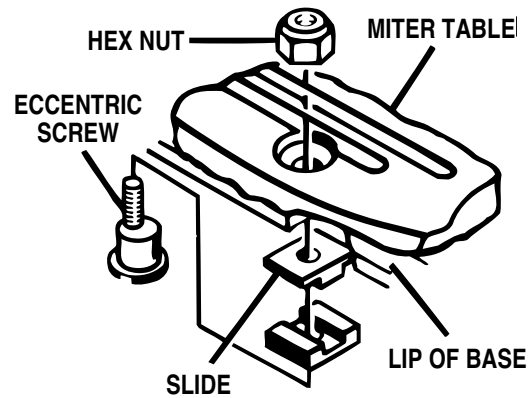

Figure 54: Miter Fence Alignment
2. There are four slides located under the sliding miter table. These slides let the miter table move on the base. Three slides are mounted on eccentric screws that can be adjusted by loosening the hex nuts on top of the miter table. See Figure 54.
3. Loosen the rear hex nuts (Q) on top of sliding miter table for this adjustment procedure.